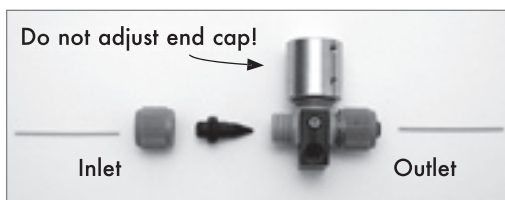

Figure 2: MicroTee with sleeves
- 1) Unscrew the ferrule and cap from the MicroTee. Orient the MicroTee as shown in Figure 2 so the platinum electrode is facing away from the user and the setscrews are visible.